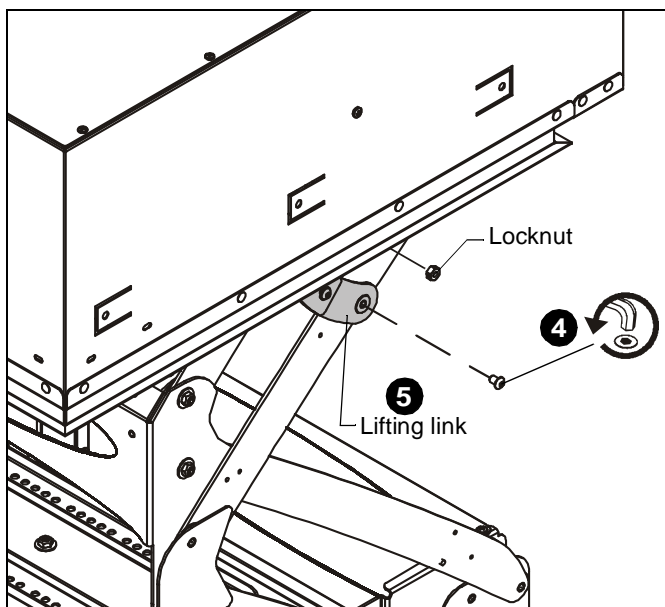

Figure 2
4. Remove one allen head bolt from bottom of lifting link, and one locknut from top of lifting link. (See Figure 2)
5. Remove lifting link. (See Figure 2)